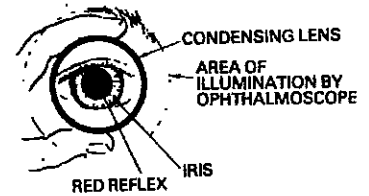

Fig. 1
3. Hold the 16D condensing lens (with the more convex surface facing the operator) close to the patient's eye so that the pupil is centred in the lens — see fig 1.